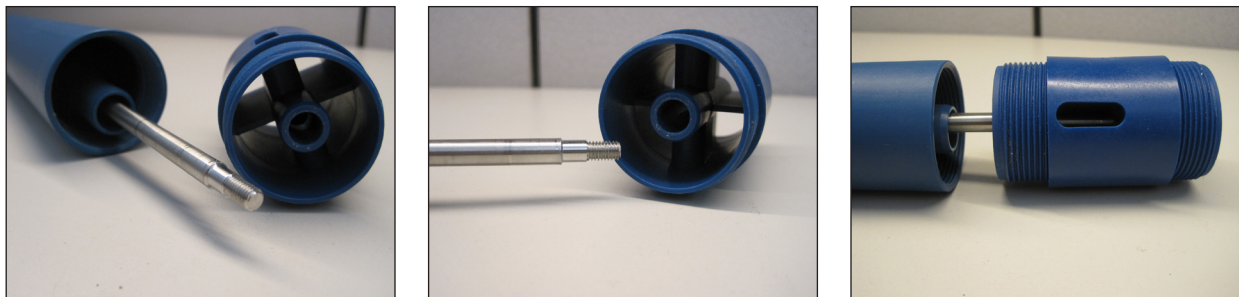

Figure 15 A, B, & C
6. **Diffuser Installation** - Install the diffuser (item 16) onto the bottom of the outer tube. This is a tight fit so it is recommended to use a compatible lubricant or water. Insert the shaft through the small support opening on the diffuser. The small support opening will insert up inside the inner tube (item 12). With a slight push and turn, thread the diffuser into the outer tube (item 15) turning counter clockwise (left hand thread). See figures 15 A, B, & C.